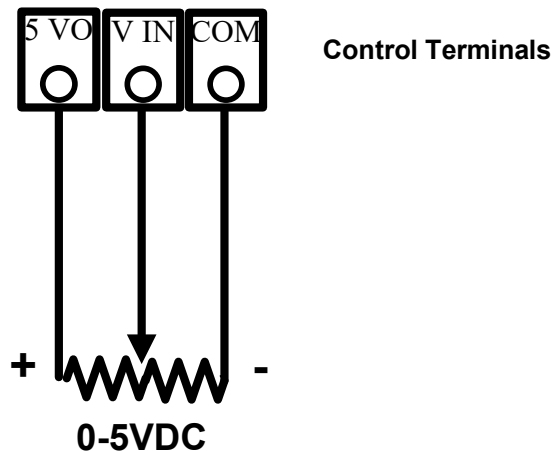

Figure 5 - Connection Diagram for 0-5VDC Transducer (Potentiometer)
| V In | 0-5 VDC input | | Analog input for motor speed control for 0-5 VDC. Speed is relative to scale of signal from 0 Hz to Maximum Frequency as set in Adjustable Parameter menu (default 60 Hz). See Figure 5 for a connection diagram. |
| COM | Common | | Common for 0-5 VDC. See Figure 5 for a connection diagram. |
2. Connect the potentiometer and 4-20 mA transducer as in **Figure 5** and **Figure 6**.